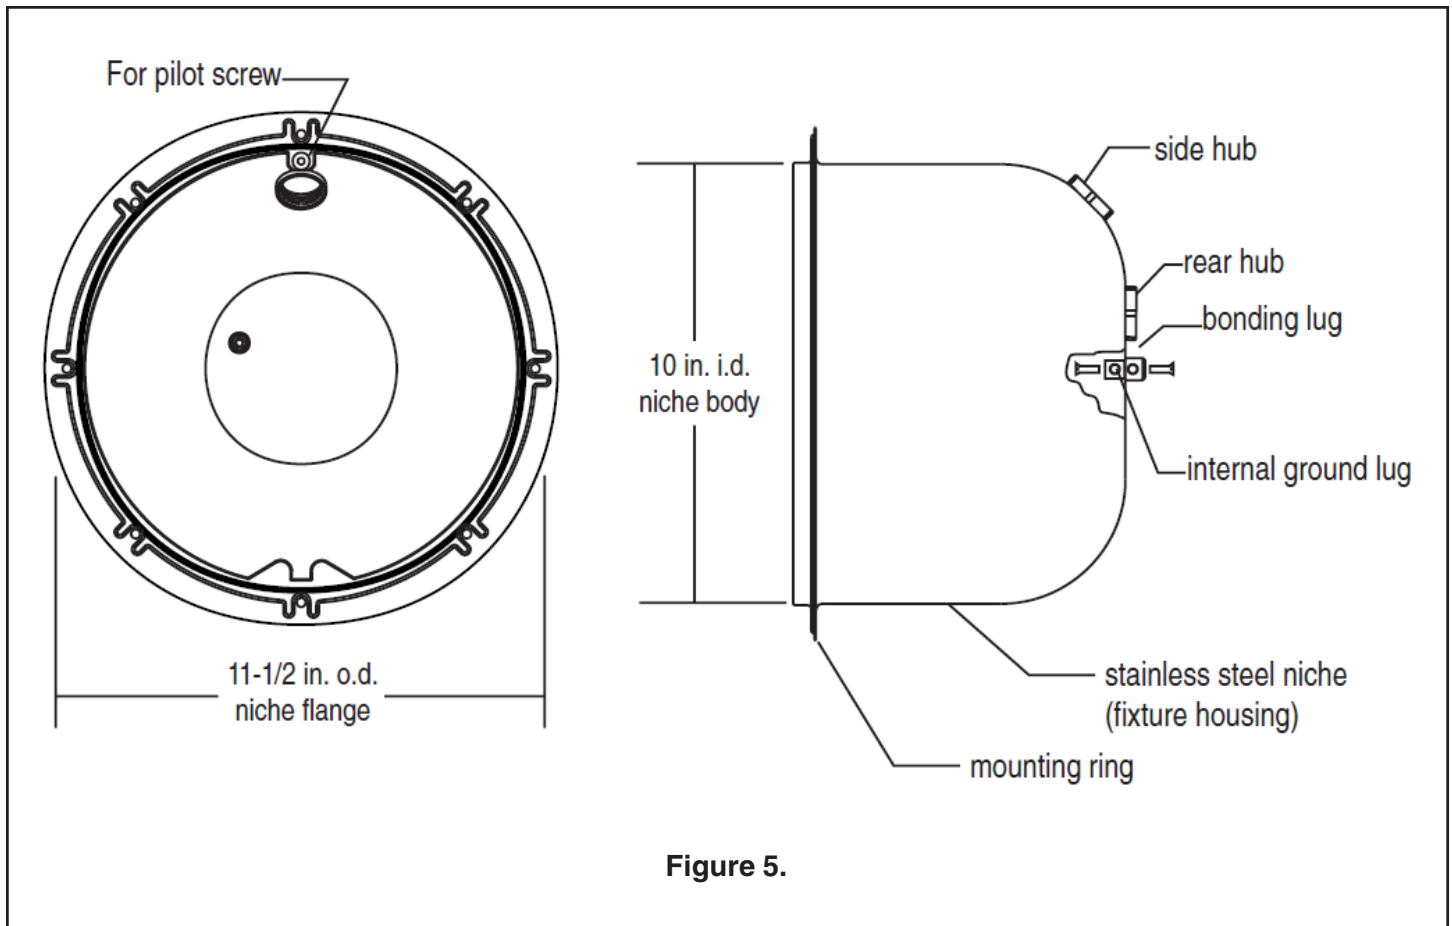

Figure 5.
- F. If non-metallic conduit is used, a No. 8 AWG bonding/grounding wire must be installed through the conduit from the Junction box to the bonding/grounding lug inside the niche. Seal the wire/lug connection with a listed sealant such as a UL Listed two component epoxy potting and encapsulating system or equivalent, to protect the connection from possible pool water corrosion. See Figure 5. See NEC 680.23 code requirement.